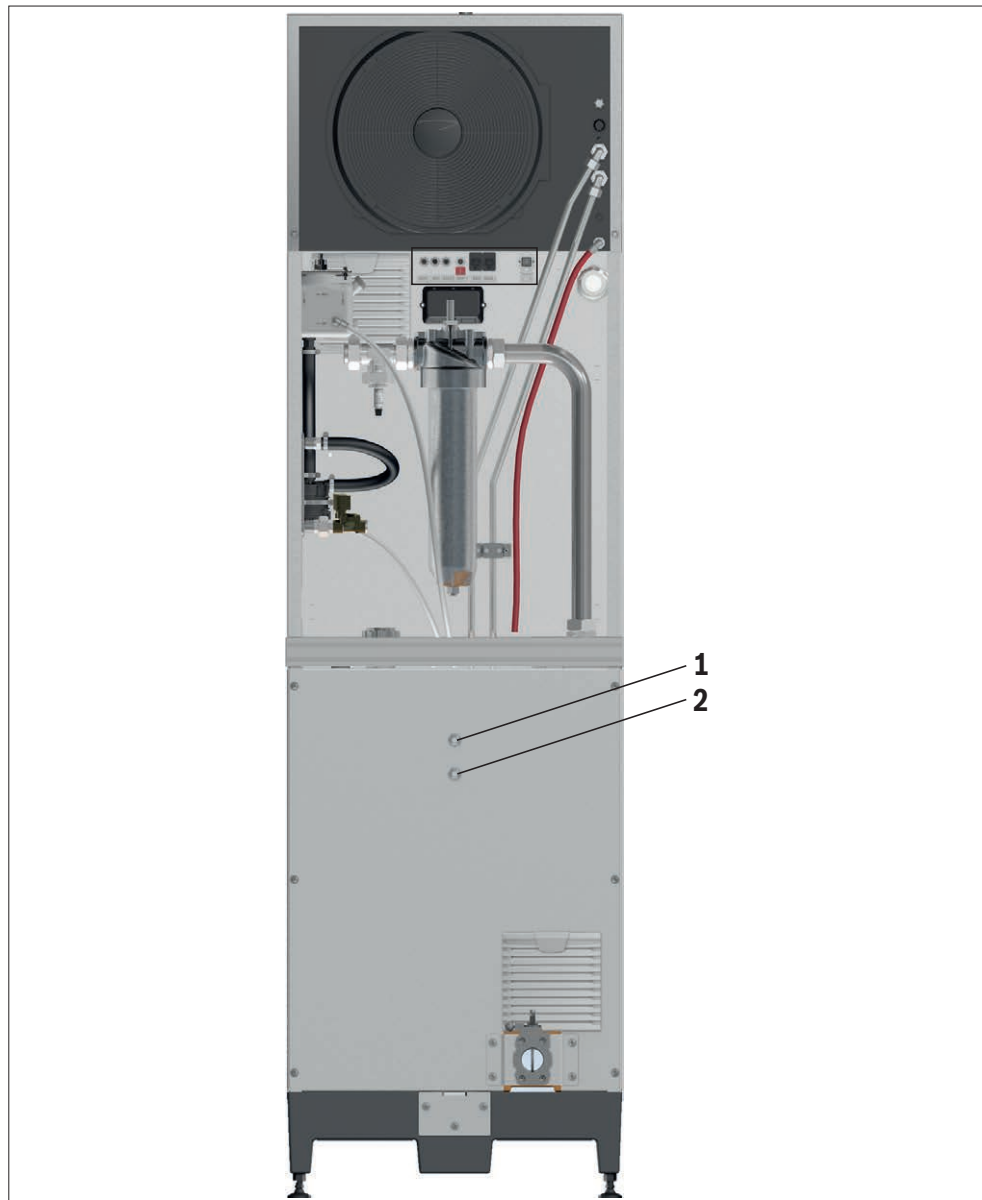

Fig. 26: Cooling water connections
- Connect the cooling water supply to the two push-in connections (d = 12 mm) as supply and return flow, see Fig. 26, items 1 and 2.